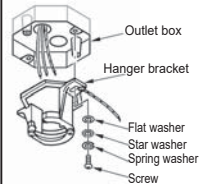

Fig.11
Step 7: Secure the hanger bracket to the ceiling outlet box using screws included with your outlet box and washers included with the fan.(Fig.11)